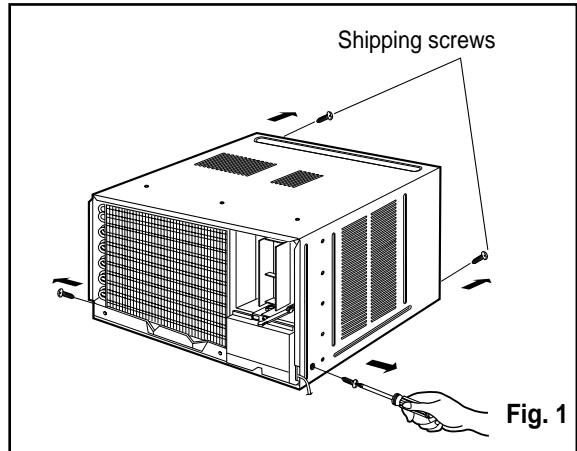

Fig. 1
In humid weather, excess water may cause the BASE PAN to overflow. To drain the water, remove the DRAIN CAP and secure the DRAIN PIPE to the rear hole of the BASE PAN. Press the drain pipe into the hole by pushing down and away from the fins to avoid injury. (See Fig.1)
1. Remove the screws which fasten the cabinet at both sides and at the back.(See Fig.1)